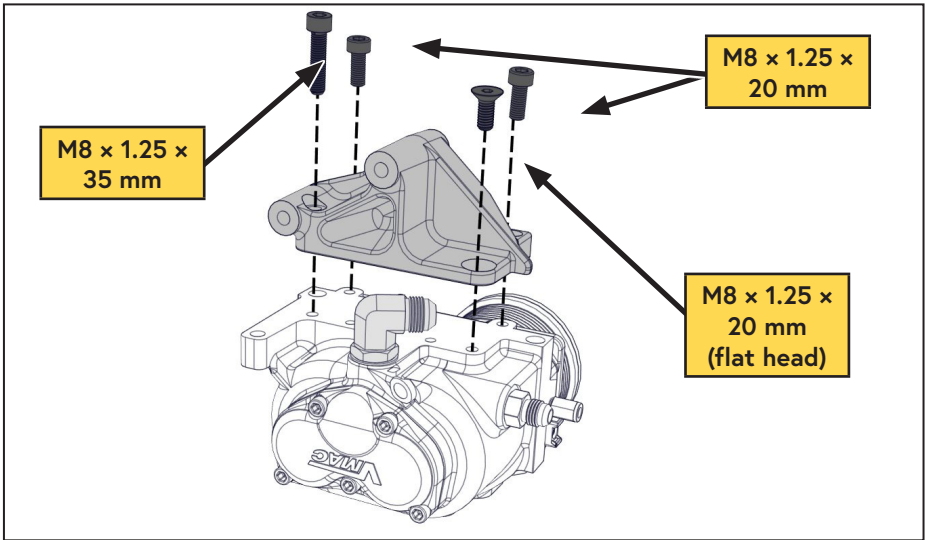

Figure 6 — Mounting the compressor to the main bracket
- Mount the compressor onto the bracket using the (x4) supplied fasteners (Figure 6).